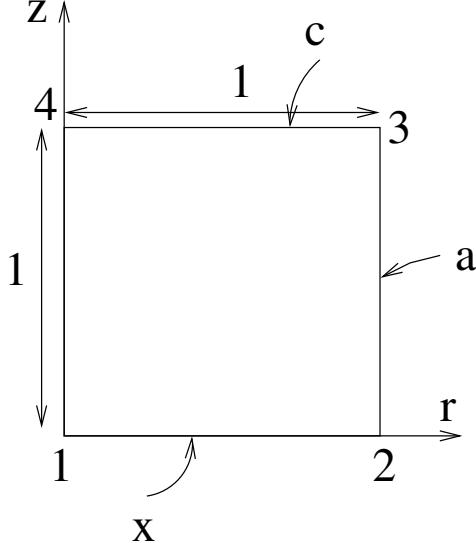

Figure 2: Problem 2
2. The axisymmetric domain of square cross section shown in Fig. 2 is subjected